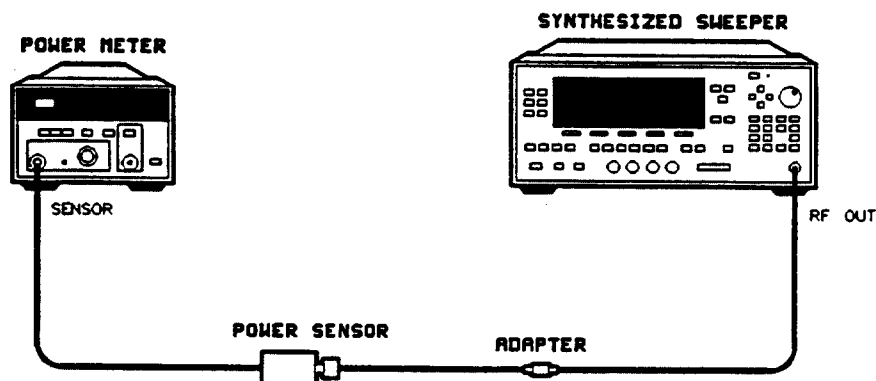

Figure 3-23. ALC Power Level Accuracy Adjustment Setup
1. Preset the equipment shown in Figure 3-23 and let them warm up for at least one hour. Do *not* connect the power sensor to the synthesizer RF OUTPUT yet.